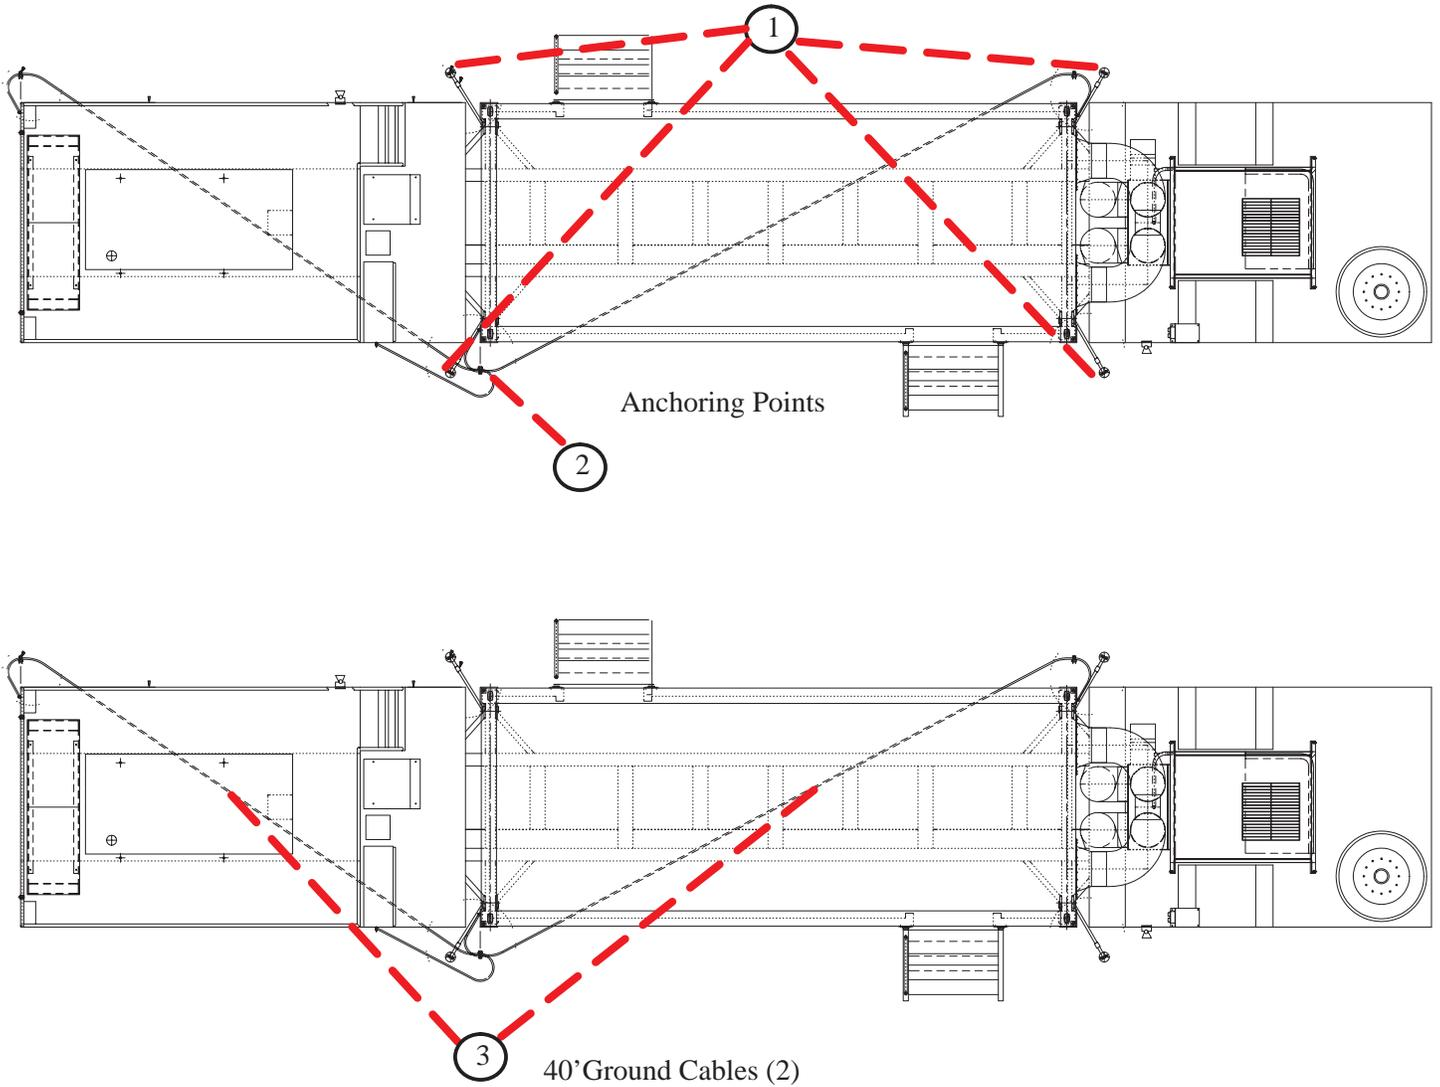

Figure 1-4. Anchoring, Ground Rods and Ground Cable Locations
Trailer leveling is accomplished by the use of the front 2 speed landing gear, if necessary leveling blocks are provided to place under the landing gear. The trailer can only be leveled along its length axis. Prior to the beginning of training certain crew station components ( slope indicators, etc.) will need to be realigned. Anchoring of the system should be done as soon as possible. There are four anchoring points for the trainer, refer to call out (1) of Figure 1-4. The following provide step by step procedures for anchoring the system when permanent anchors are not available. Discretion must be used when anchoring the trainer. Some sites will have anchors installed as part of the site. These anchors may or may not be usable. All tools mentioned in this procedure are provided as part of the Tools and Test Equipment List (TTEL).
2. Use a hammer to drive the ground rod (near the power distribution system, see callout 2 of Figure 1-4) approximately 2 feet into the ground. NOTE: this is temporary for using the auger to install the anchors and the rotary hammer for driving the ground rods.
3. Lay both 40' grounding cables in the configuration show in callout 3 of Figure 1-4.
10. Dig a 12" diameter X 6" deep hole where each anchor is to be installed. Refer to call out (1) of Figure 1-4 for placement of anchors.